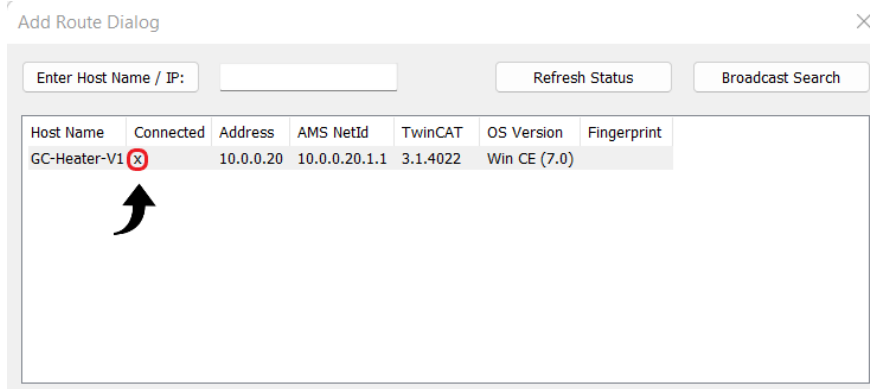

Figure 33: Static Routes – ‘Add Route Dialog’ window, connection indicator
9. If you were successful in adding the route you will now see an 'x' appear in the 'Connected' column next to the controller you added as is highlighted in Figure 33 on the next page. Without closing the 'Add Route Dialog' window, repeat steps 7 & 8 for any additional controllers the scan found that you wish to connect to (if applicable). If you were not successful in adding the route, please ensure you've completed all steps in the previous sections correctly and try again.